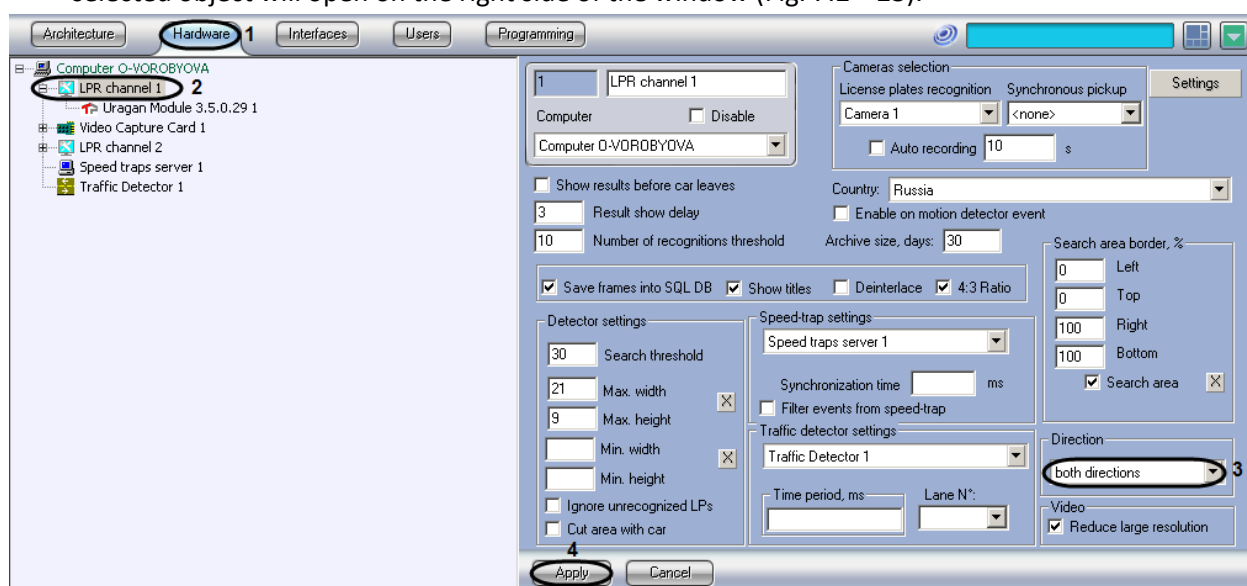

Fig. 7.2—25 Selecting the movement direction of the vehicles to be recognized
2. In the object tree on the left side of the Hardware tab, select the LPR channel, corresponding to the activated Auto-Uragan 3.5.0.29 program module in the objects tree on the Hardware tab (see. «Program module activation, used for Plates identification»). The settings panel of the selected object will open on the right side of the window (Fig. 7.2—25).